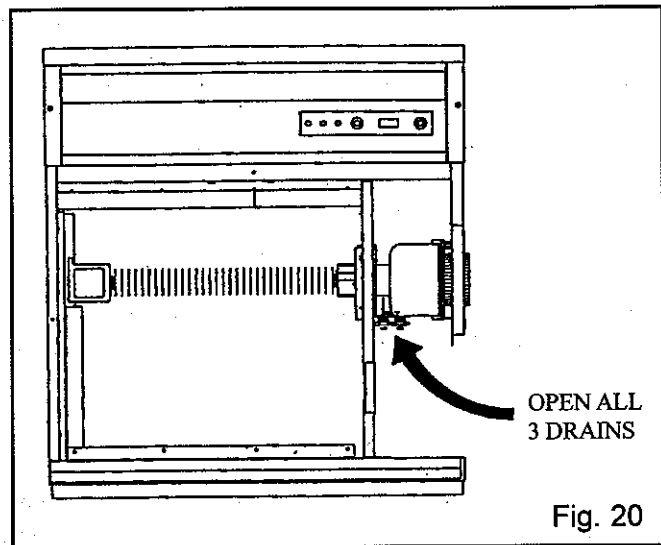

Fig. 20
4. Remove the lower side jacket panel below the water connections. *Figure 20*